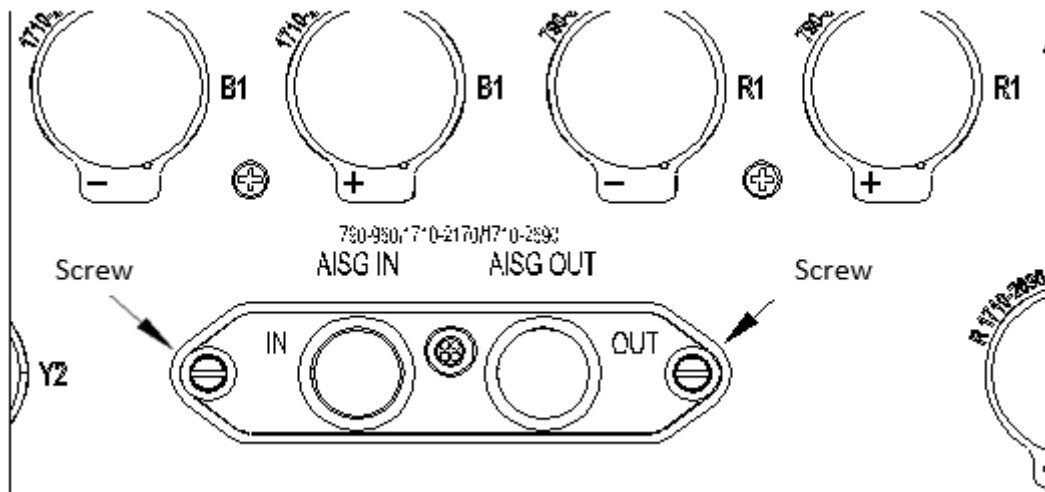

Figure 3-2 IRCU Installation
b) As shown in Figure 3-2, tighten screws on IRCU using a slotted type screwdriver.